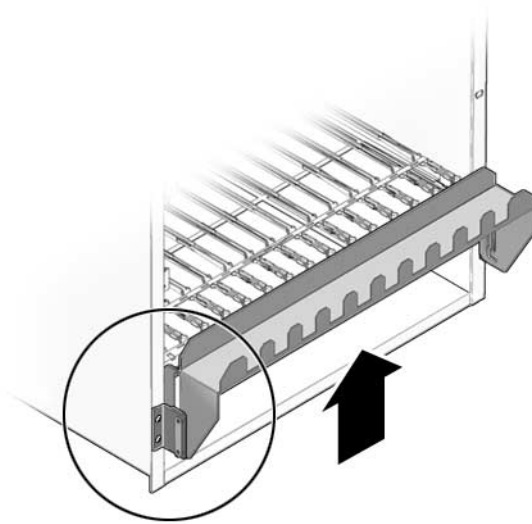

FIGURE 5-5 Front Cable Management Bracket in Upper Position
1. Move the front cable management bracket to the upper position (FIGURE 5-5).